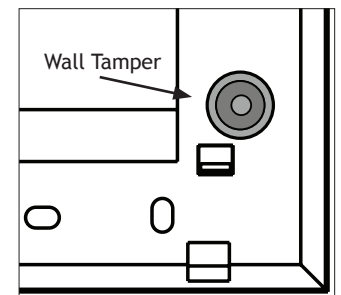
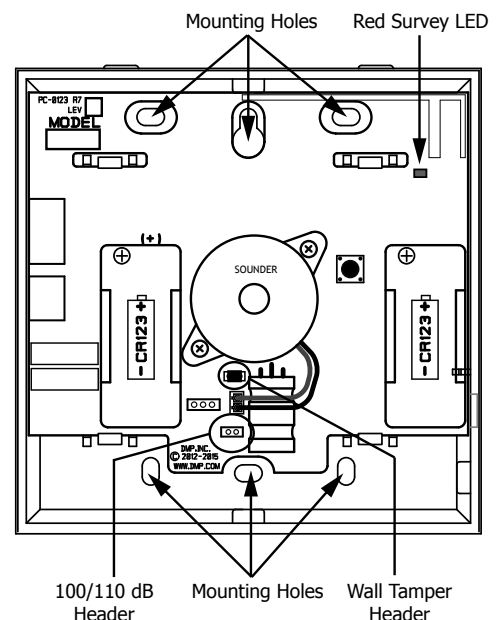

Figure 2: Wall Tamper
Figure 3: Mounting Holes and PCB Features
The 1135 is equipped with a case tamper and a wall tamper. See Figure 2. A two position header is provided to disable the wall tamper. See Figure 3. To disable the wall tamper, place the jumper across the two pins of the header. Disable the wall tamper if mounting using the supplied double-sided tape.
The siren is equipped with a 100/110 decibel (dB) jumper and a two-position header to change the decibel output. The siren is shipped at the 110 dB output level with the jumper placed on one pin for storage. If the 100 dB setting is required, place the jumper over both header pins. See Figure 3.
The 1135 siren's LED survey capability allows one person to confirm communication with the receiver. The PCB Red Survey LED turns on brightly whenever data is sent to the receiver then immediately turns off when the receiver acknowledgement is processed. See Figure 3. Press the tamper switch to send data to the receiver to confirm operation. When the 1135 does not receive an acknowledgement from the receiver, the survey LED remains on for 8 seconds to signal that communication is not established. Communication is also faulty when the LED flashes brightly multiple times in quick succession. Relocate the siren or receiver until the LED immediately turns off when tampered. Proper communication between the siren and receiver is verified when for each press or release of the tamper switch, the LED blinks immediately on and immediately off.
2. Install the included two 3.0V Lithium CR123A batteries. See Figure 3.
3. Mount the 1135 on a flat wall. Use the supplied screws in the mounting hole locations shown in Figure 3, and insure the wall tamper makes proper contact with the wall. Or, if using the supplied double-sided tape to attach the siren to the wall, be sure to disable the wall tamper.
3. Place the two CR123 batteries in the holders and press into place. See Figure 3 for the battery locations.